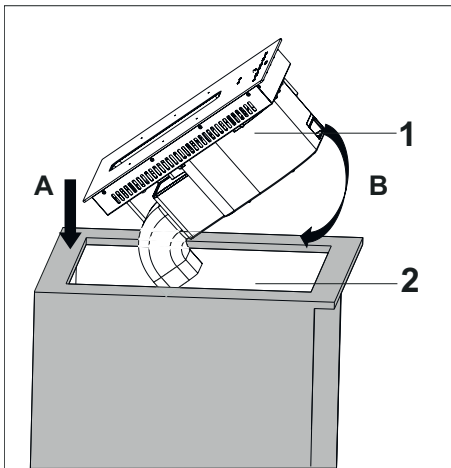

Fig. 26
- Place the back of the product on the counter first (Fig. 26/A). Then place the front of the product (Fig. 26/B).